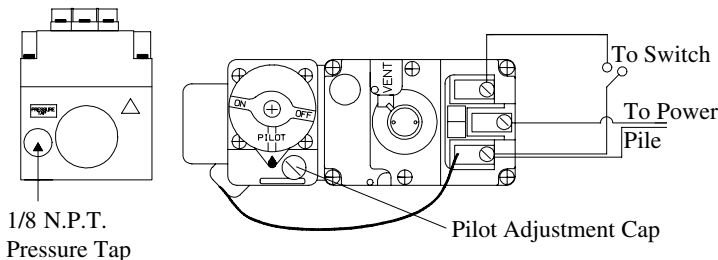

FIGURE 5. GAS CONTROL VALVE
The **Montigo 36SR** is equipped with a remote-operated valve, located behind the removable grille, at the bottom of the fireplace. (Refer to Figure 5 on the last page.) The valve is pre-wired and completely self-contained and self-powered: **DO NOT** connect any external power to it.
The gas control valve is located behind the grille in the centre of the fireplace (see **Figure 5** below). Before lighting the pilot, make sure that the gas line is connected and the gas shut-off valve is turned to the ON position.
- Remove Pilot Adjustment Cap (see **figure 5**).
Have the fireplace installation inspected yearly, including a visual check of the vent system, the burner and the pilot flame. For your convenience a 1/8" pressure tap is supplied on the gas valve for a test gauge connection. See **Figure 5**. This appliance requires a minimum gas pressure of 7" W.C. for natural gas. Always keep the fireplace area clear and free of combustible materials, as well as gasoline and other flammable vapours and liquids. Use a vacuum cleaner or whisk broom to keep the control compartment, burner, and firebox free from dust and lint. Logs may be cleaned periodically with a vacuum to remove soot and other contamination.